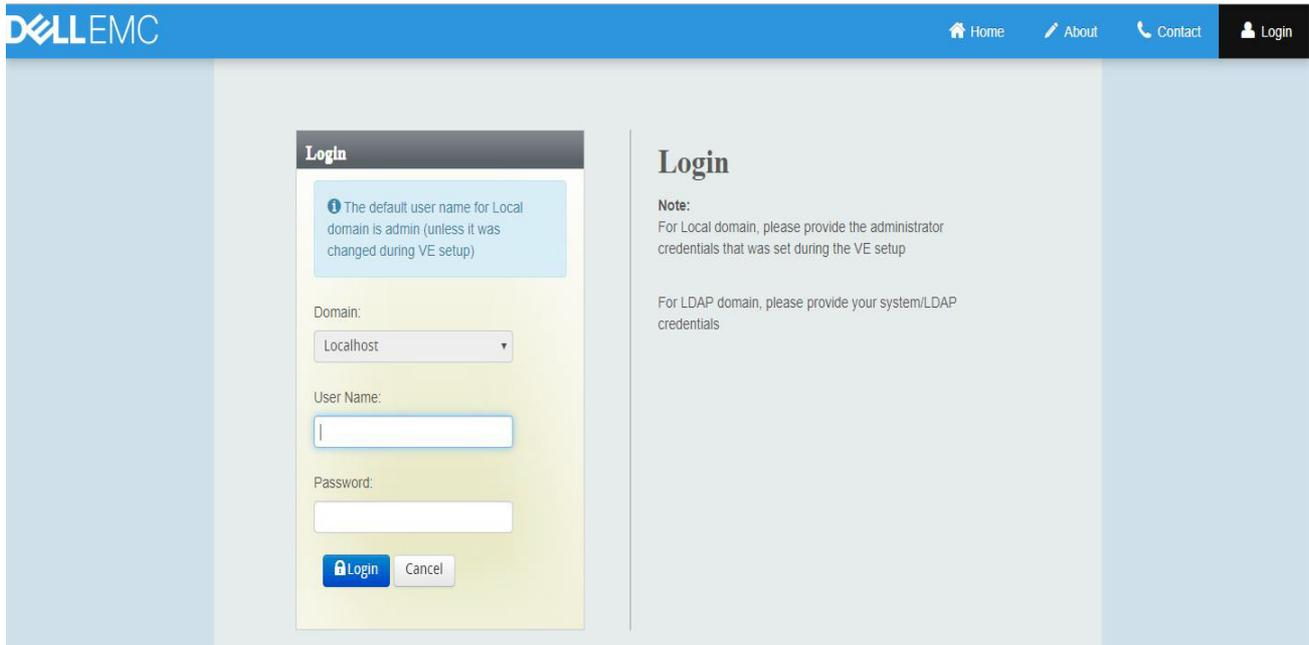

Figure 4 Login page
- In the SRS home page, click **Login**, as shown in Figure 4 on page 21. The Login page appears.